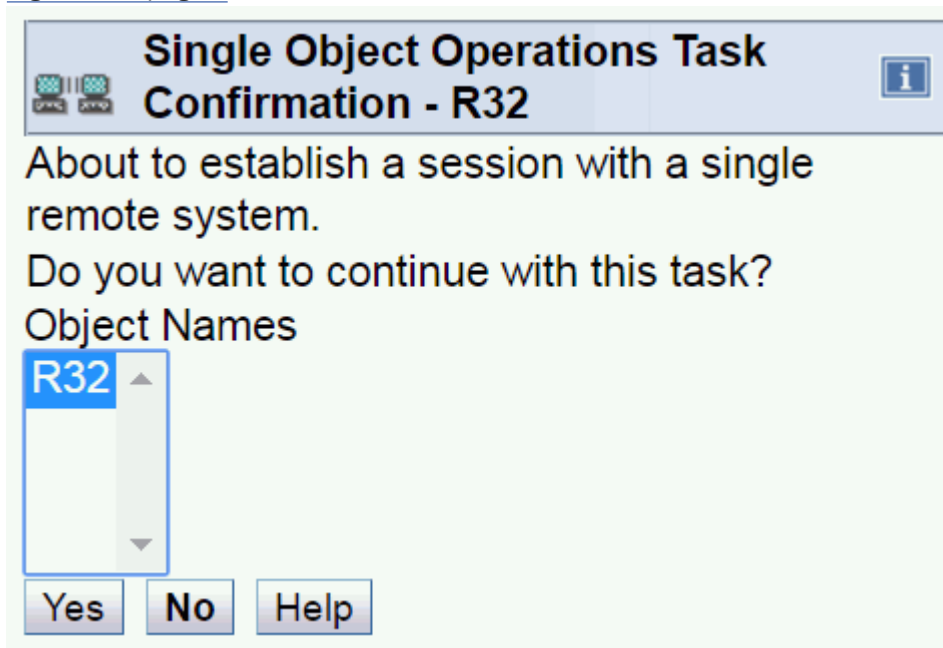

Figure 4. Single Object Operations Task Confirmation window
- Click **Single Object Operations**. The Single Object Operations Task Confirmation window is displayed. Figure 4 on page 4 shows this window.